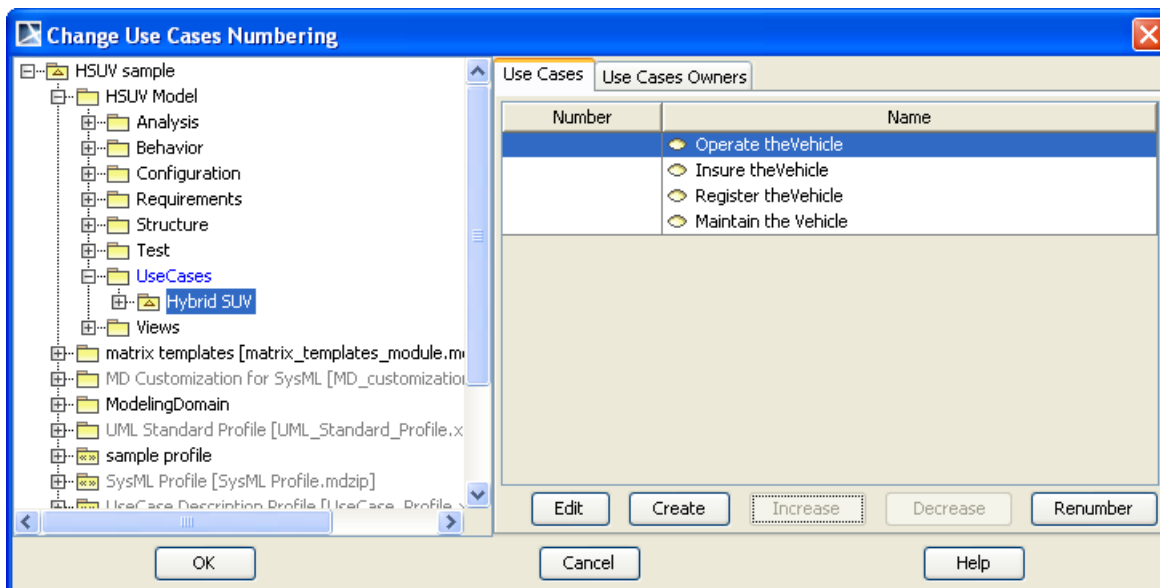
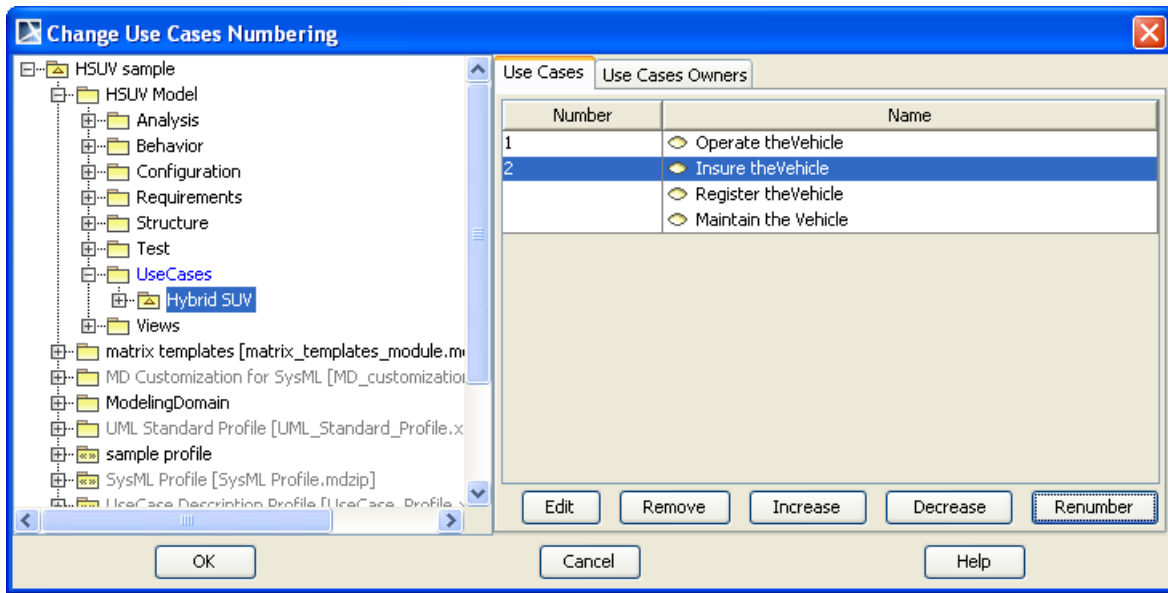

Figure 196 -- Change Use Cases Numbering Dialog
Figure 197 -- Example of Use Case Numbers
2. Click **Yes**. The **Change Use Cases Numbering** dialog will open (Figure 196).
3. Click **Create** to automatically number the selected use case. Each use case number will be increased by increments of one. For example, if the **Operate theVehicle** use case is numbered '1' (Figure 196), select the **Insure theVehicle** use case, and then click the **Create** button to number the use case to '2' (Figure 197).